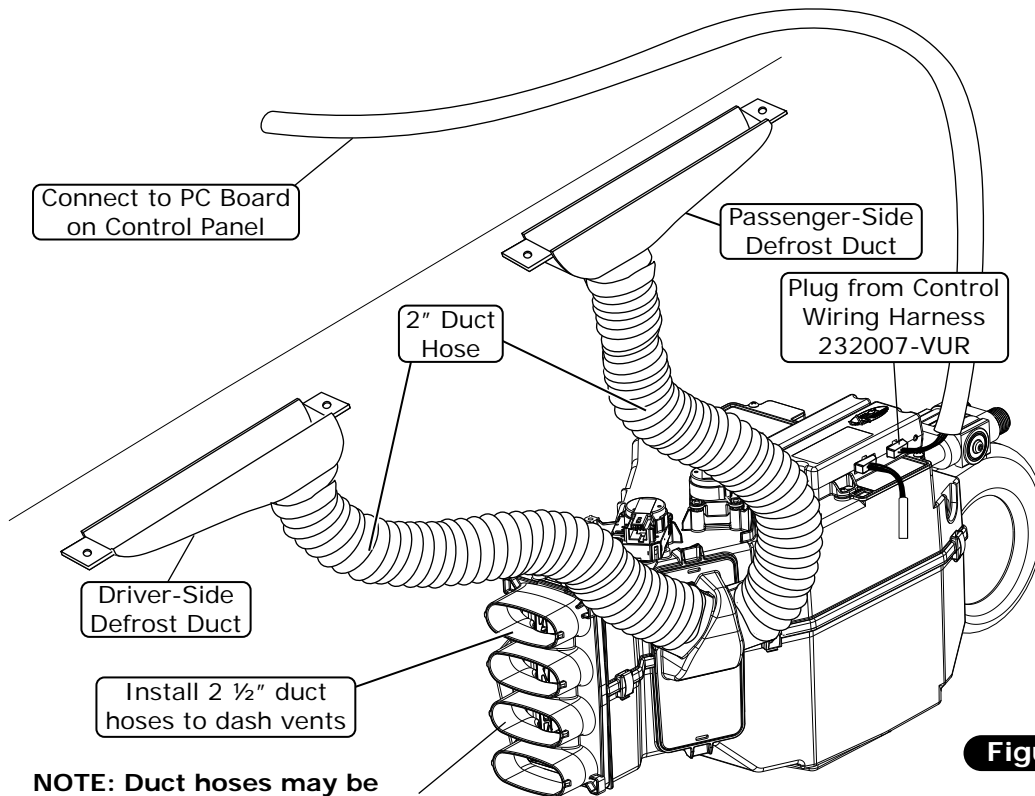

Figure 1
1. Install the duct hoses as shown in Figure 1, Page 17. Stretch the duct hose tightly to the dash vents. Trim to ensure that the duct hose is tight, with as few kinks or sharp bends in the hose as possible. This will ensure maximum airflow.
4. Plug the wiring harness into the ECU module on the sub case as shown in Figure 1, Page 17. Wire according to the wiring diagram on Page 19.